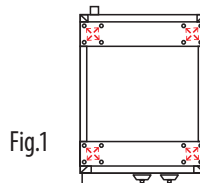
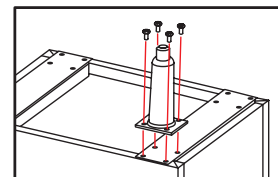

Fig.1
Fig.2
1. Remove cast iron grate and burners from the unit. Turn the unit upside down and locate the leg plate to align screws (Fig.1). Attach each leg to plate with four screws and tighten (Fig.2). Once all legs are attached, turn the unit right side up, and reinstall burners and grates.